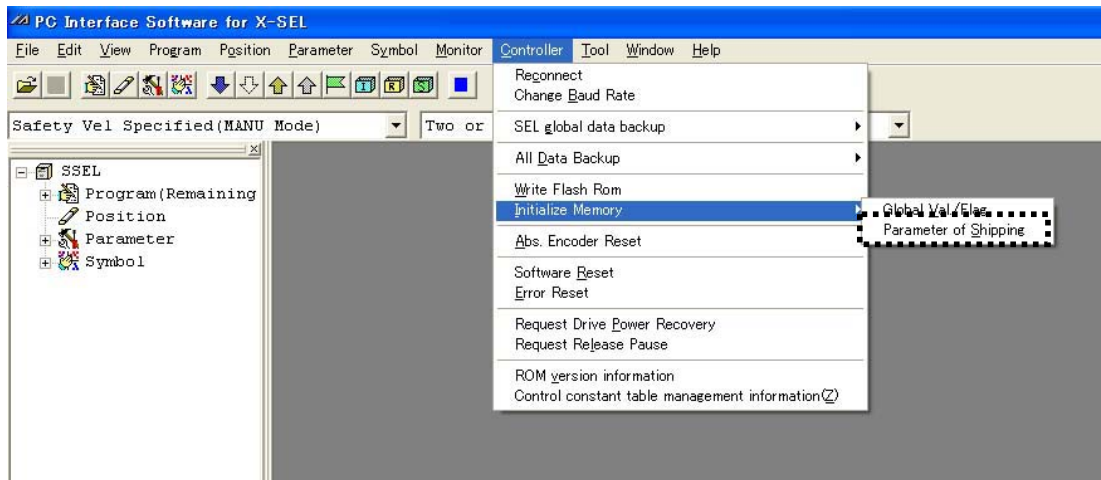

Fig. 8.14 Menu Bar (Parameter Initialization [Shipment Values]: Example of SSEL)
- (2) Enter a password (5119) in the displayed Input Password screen. The Parameter of Shipping menu will be displayed in the Initialize Memory menu (Fig. 8.14).